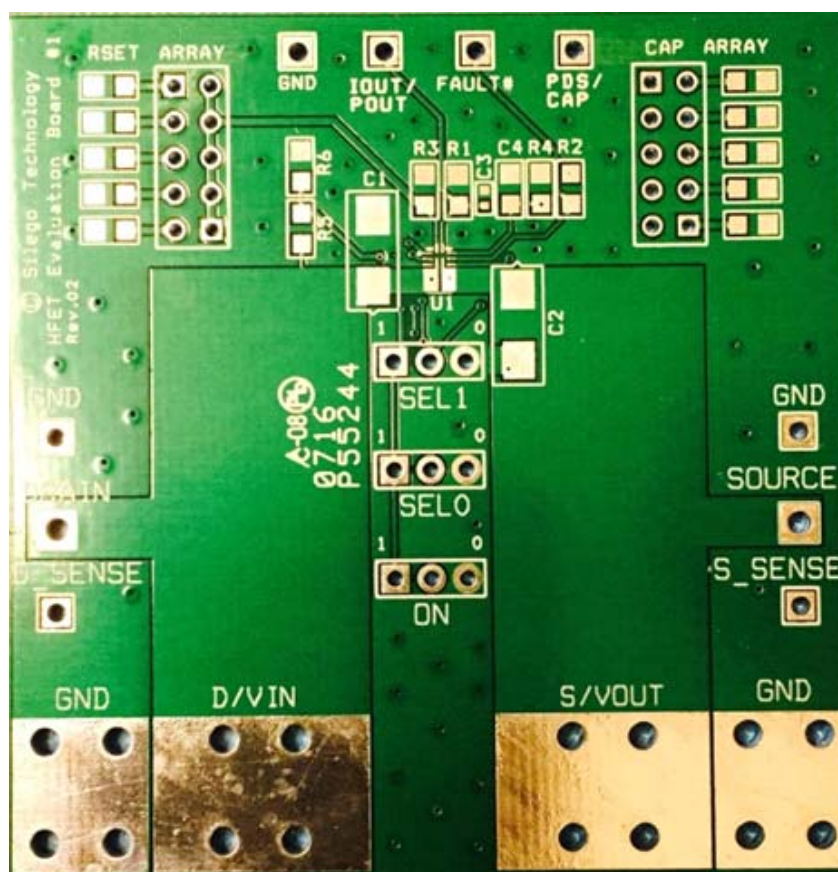

Figure 10. SLG59H1120V Evaluation Board
1. Since the VIN and VOUT pins dissipate most of the heat generated during high-load current operation, it is highly recommended to make power traces as short, direct, and wide as possible. A good practice is to make power traces with an absolute minimum widths of 15 mils (0.381 mm) per Ampere. A representative layout, shown in Figure 10, illustrates proper techniques for heat to transfer as efficiently as possible out of the device;
A HFET1 Evaluation Board for SLG59H1120V is designed according to the statements above and is illustrated on Figure 10. Please note that evaluation board has D_Sense and S_Sense pads. They cannot carry high currents and dedicated only for RDS_{ON} evaluation.